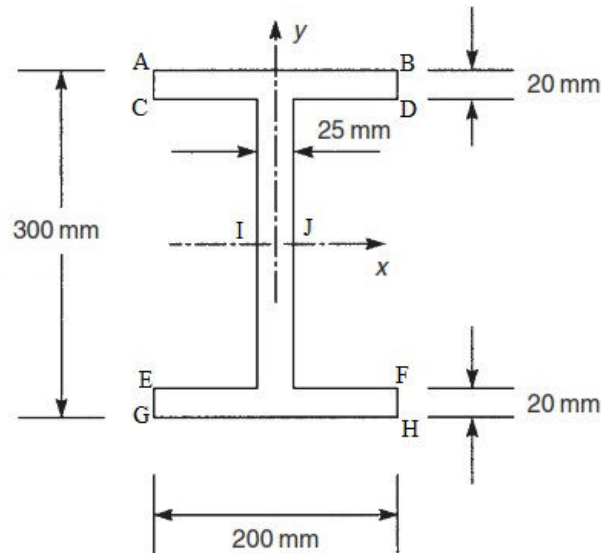

Fig.1
1. The cross-section of a beam has the dimensions shown in Fig.1. If the beam is subjected to a negative bending moment of 100 kN m applied in a vertical plane (i.e. $M_X = -100$ kN), Calculate the maximum direct stress in the stating clearly the point at which it acts.